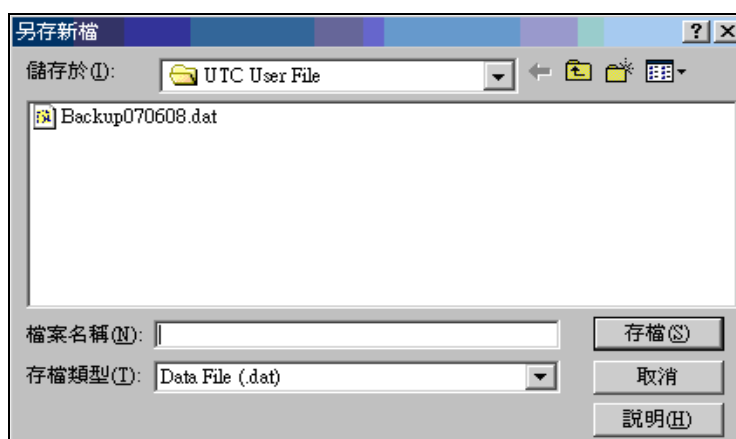

Fig 1.2.5.2
4. The backup process could take a few seconds to minutes. There is a red bar to show each data group processing. (Fig 1.2.5.3)